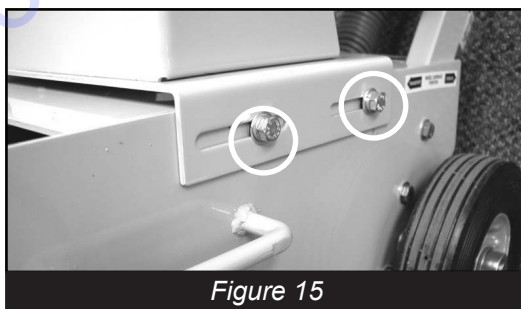

Figure 15
- Loosen engine/motor mounting bolts (Figure 15) on both sides of the TG-10 and slide engine forward to allow belts to slide off.